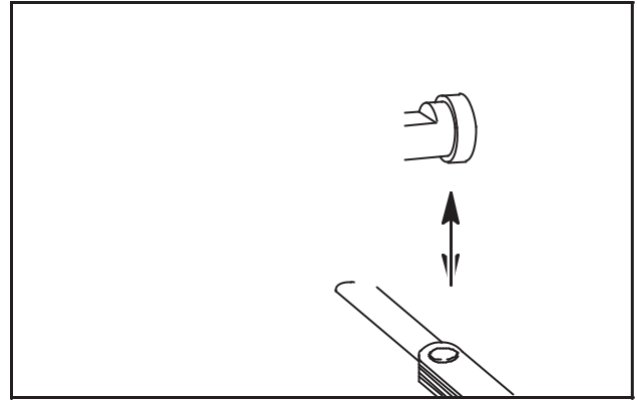

Fig. 11 – Checking Clearance
1. Lay carburetor on flat surface and check throttle and choke shaft clearance as shown in Fig. 11. Throttle shaft and choke shaft clearance must not exceed .010" (.25 mm).